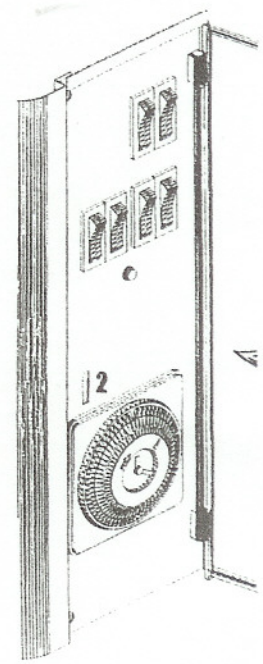

Figure 11
- To close the cover (arrow B'), push on the front (arrow B) until the clear plastic part (1) snaps closed (Fig. 11).